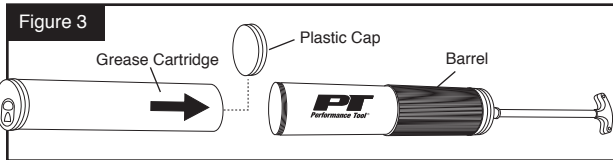

Figure 3
3. After removing the plastic cap from the grease cartridge, apply a small amount of grease to the inside edge of the cartridge. This will make insertion of the plunger easier. (Figure 3)